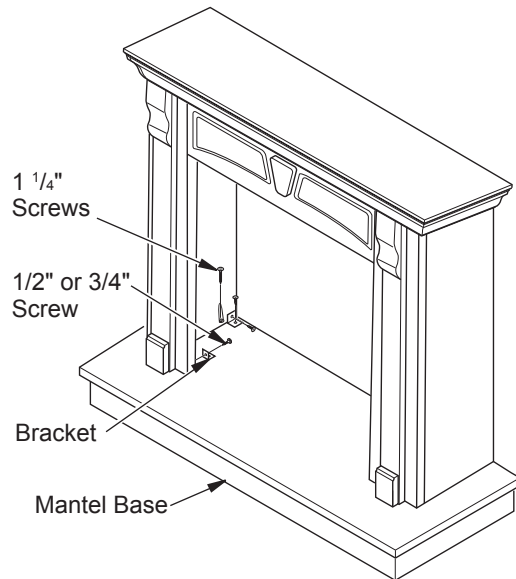

Figure 9 - Attaching Mantel Assembly to Mantel Base
5. Place mantel assembly onto mantel base and center left to right with the back flush with the back of the base (see Figure 9).
6. Use 1 1/4" screws in pocket holes to attach mantel assembly to mantel base. Using brackets and 1/2" - 3/4" screws from bracket hardware kit, attach support brackets to base and mantel assembly - one at each back corner of the leg sides and one on each leg front (see Figure 9).